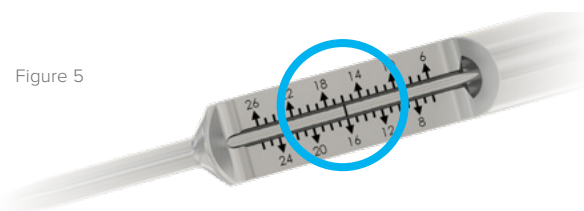

Figure 5
5. Use the laser mark on the guide wire (illustrated in figure 5 as 16 mm) to select the desired implant length